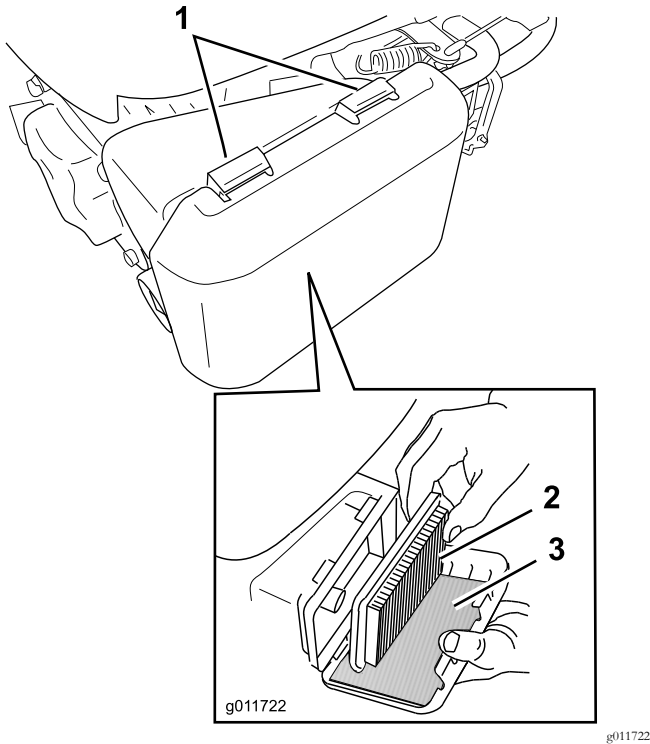

Figure 38
1. Press down on the latch tabs on top of the air-cleaner cover (Figure 38).
3. Remove the paper air filter and the foam pre-filter (Figure 38).